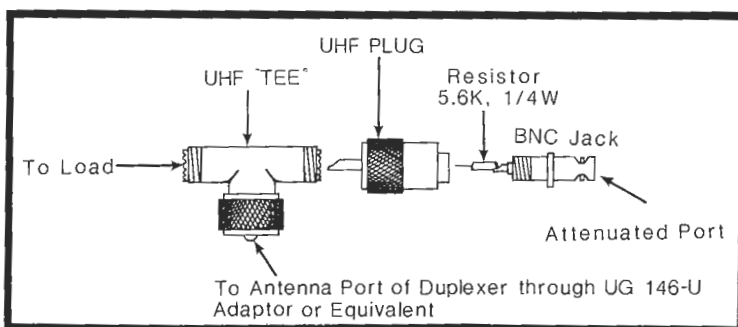

FIGURE 14. "DESENSE T" ASSEMBLY
3. Air-couple the standard signal generator to the antenna line by using a "desense T." Figure 14 and the following steps describe the assembly of the "desense T".